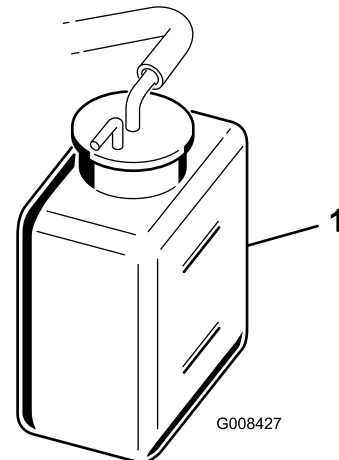

Figure 44
2. Check the coolant level (Figure 44).